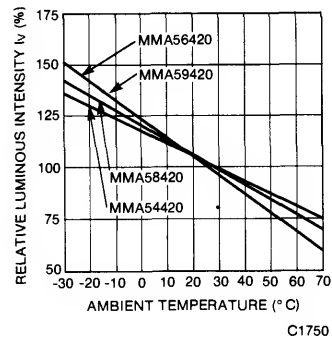

Fig. 6. Relative Luminous Intensity vs. Ambient Temperature
- The curve in Fig. 6 is normalized to the brightness at 25°C to indicate the relative efficiency over the operating temperature range.